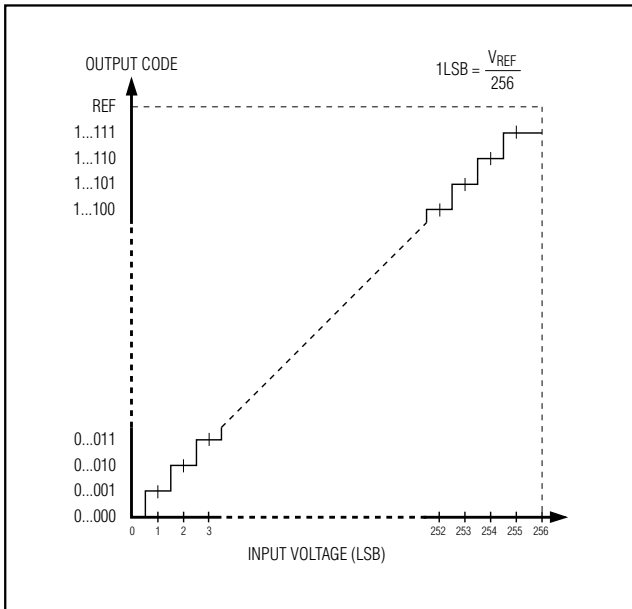

Figure 12. Unipolar Transfer Function
Output data coding for the MAX1036–MAX1039 is binary in unipolar mode and two's complement binary in bipolar mode with $1\text{LSB} = (V_{\text{REF}}/2^N)$ where N is the number of bits (8). Code transitions occur halfway between successive-integer LSB values. Figures 12 and 13 show the input/output (I/O) transfer functions for unipolar and bipolar operations, respectively.